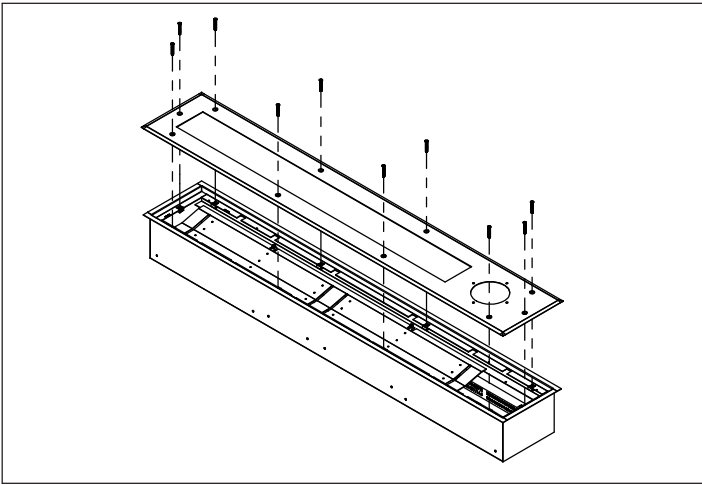

Figure 1
1. Remove screws from Frame to open fixture. (Fig. 1)